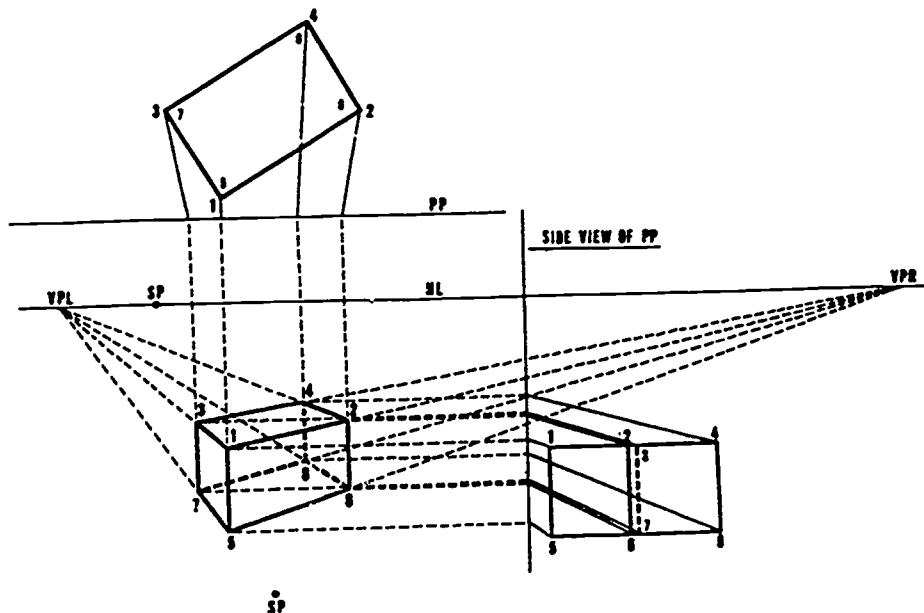
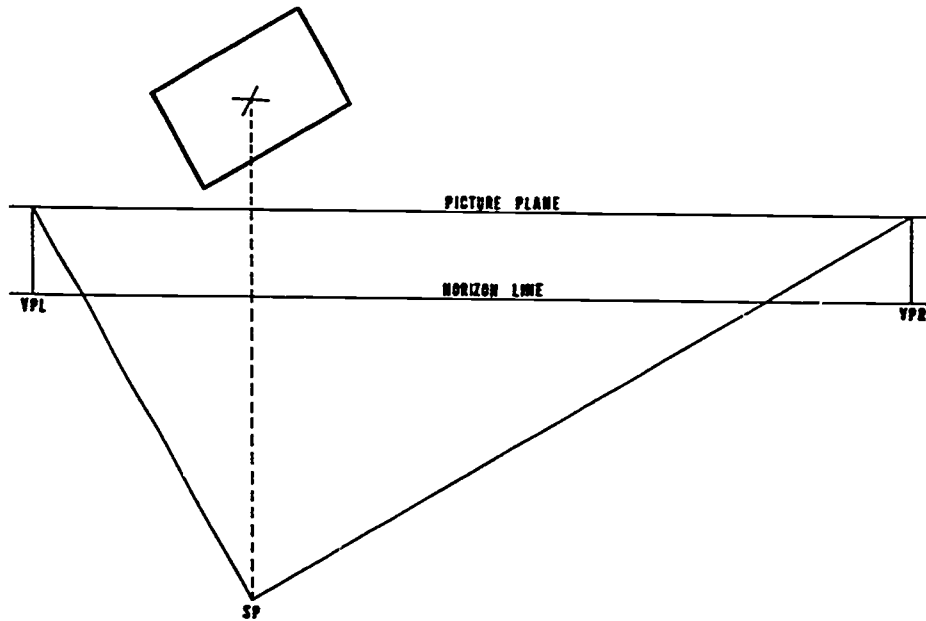
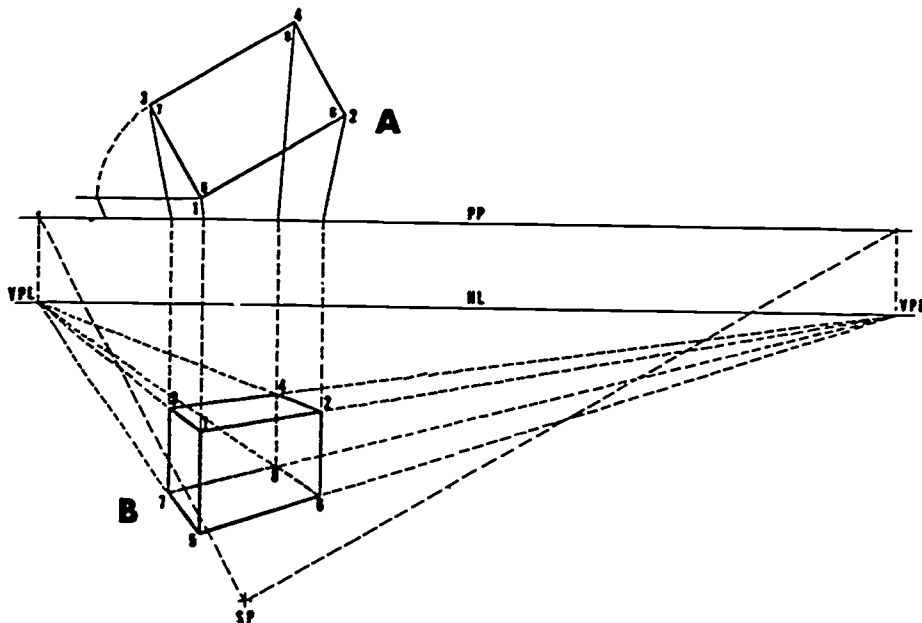
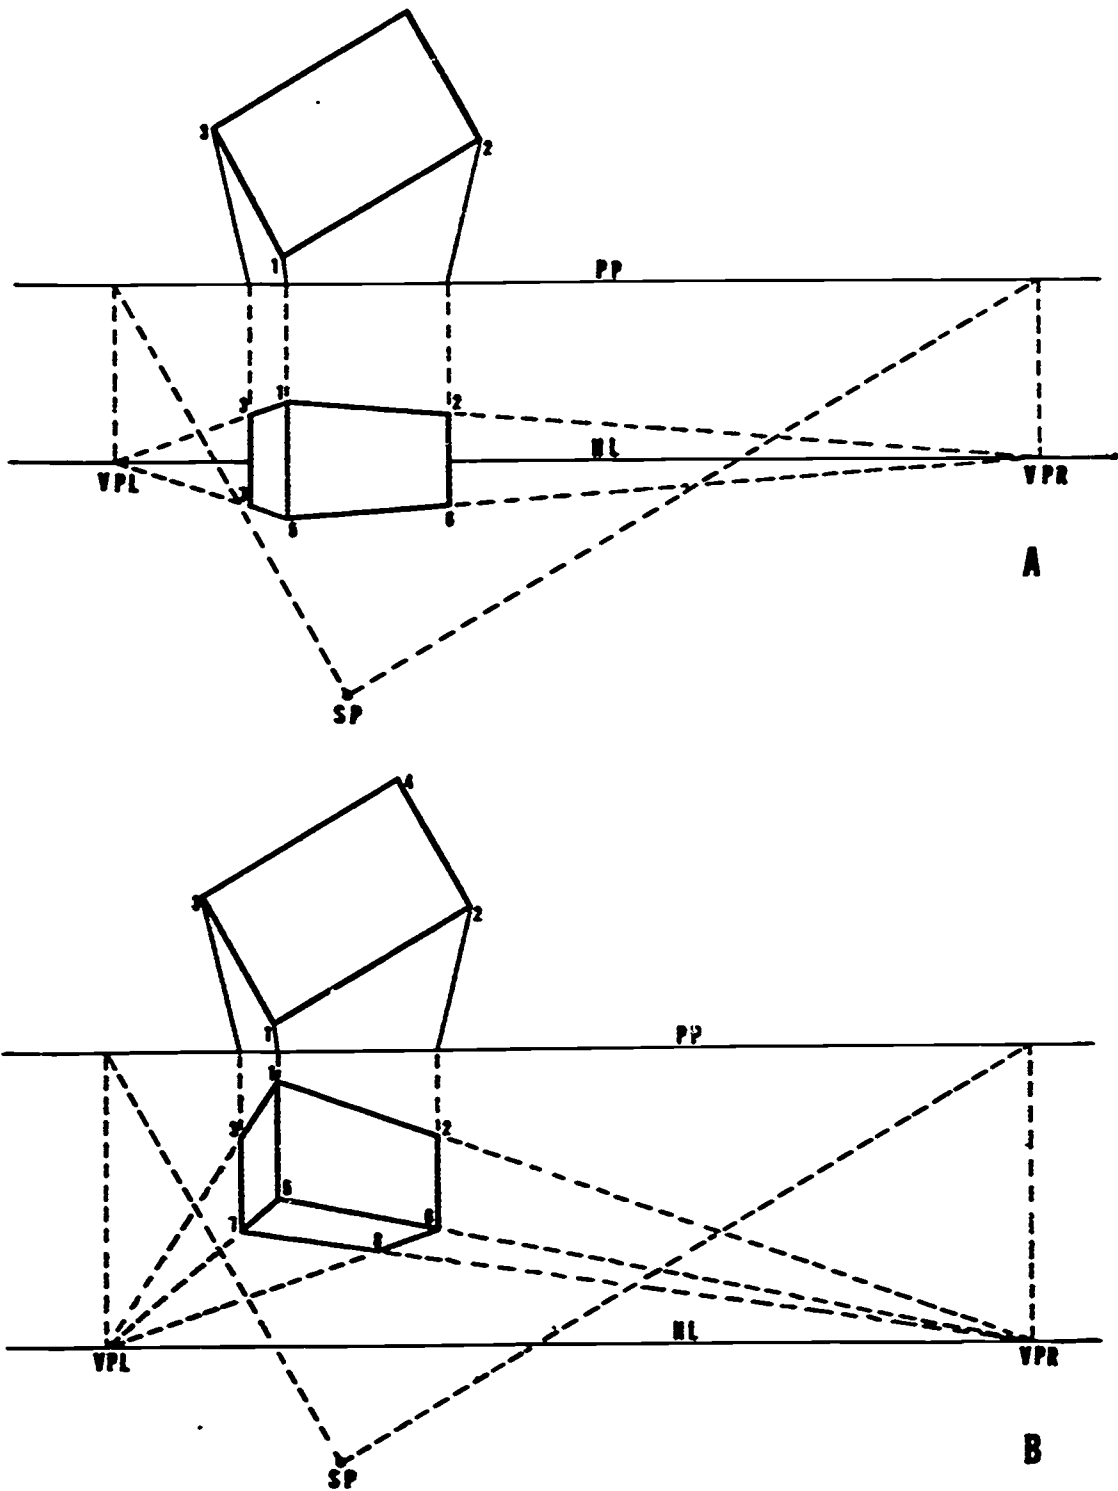

Figure 4-104. Two-point (angular) perspective.
Figure 4-105. Locating vanishing point.
Figure 4-106. Two-point (without elevation of object).
Figure 4-107. Object on eye level (A), object above eye level (B).
**Two-point perspective.** The second type of perspective—two-point—is the most commonly used for making perspective drawings. In two-point (angular) perspective, the object is considered as sitting at an angle to the picture plane. In the perspective drawing of such an object, there are two sets of horizontal edges converging toward two different vanishing points on the eye level or horizon line. The parallel lines that slope to the right will vanish at a point in the distance called the right vanishing point (VPR), and those that slope to the left at a point called the left vanishing point (VPL) (see fig. 4-104).
Once the picture plane was established, the station point for the top view in figure 4-104 was located approximately opposite the center of the block. The distance from the station
This method is usually used when architectural drawings are made in two-point perspective. However, two-point perspective may be drawn (as in fig. 4-104) from a plan view of the object alone, without the elevation. When this is done, the vanishing points are first projected on the picture plane and then located on the horizon line. In order to do this, a line parallel to one set of horizontal lines in the top view is drawn from the station point to the line of the picture plane. The point at which this line intersects the picture plane is then projected to the horizon line to locate a new point, either VPL or VPR (see fig. 4-105).
When this method is carefully used, it will produce as much accuracy as the method illustrated in figure 4-104. For example, in figure 4-106, the horizon line has been placed at the same level as the horizon line in figure 4-104, and the cube is the same size so that the two methods can be compared. In figure 4-104, the vanishing points were found after the drawing was completed, and it was not necessary that they be found at all. In figure 4-107, the vanishing points were found at the start, because they control the drawing.
In figure 4-107 lines are drawn converging toward the station point from the corners of the block in the top view. From the points where these lines pierce the picture plane, verticals are dropped to give the apparent width of the block in the perspective view. Since an elevation is not used, the various heights cannot be found directly. However, the bottom of the block (B) may be located, as shown in figure 4-107, by drawing lines to the vanishing points from the point selected as the near corner.
Still discussing figure 4-107, B, when the front edge of the subject does not rest against the picture plane, it is necessary to use some other dimension. Because the end of the block is square, it is possible to find the perspective length of a horizontal line and use this dimension for the edge of 1-5. This is done by drawing a line parallel to the picture plane from point 1, measuring a length of this line equal to 1-3, and drawing a line converging on the station point to the picture plane from the end of this line.
This length can then be transferred to the front edge of the perspective view (B) and the view completed as shown in figure 4-106. To check the accuracy of this method, compare figure 4-106 with figure 4-105. You will find that, since the station point, horizon level, and bottom of the cube correspond, the two perspective views are similar. It is possible to make them correspond exactly.
In figure 4-106, the bottom of the front edge of the block (B) has been placed arbitrarily at a certain point. Actually it could have been placed on the vertical projection from the cube at any desired point. Thus, the perspective view may be drawn below the eye level, or, as shown in figure 4-107, it may be drawn at eye level (top) or above it (bottom).